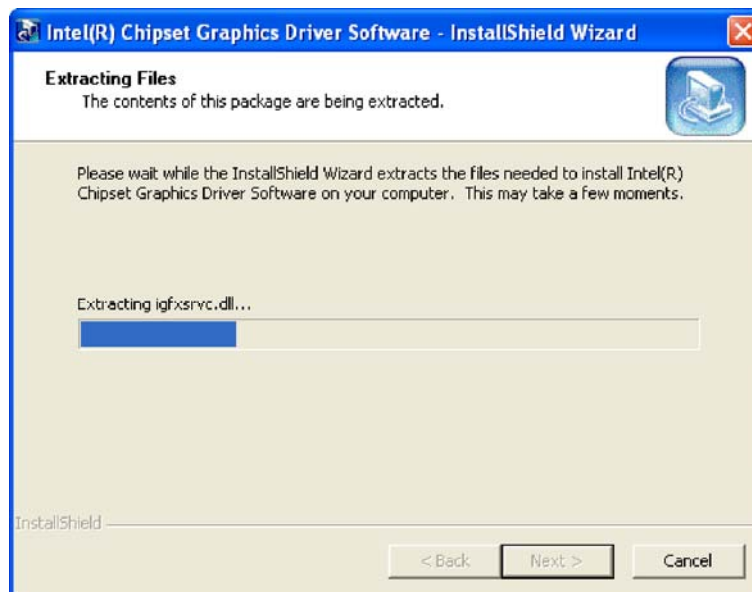

Figure 6-10: VGA Driver Setup Files Extracted
Step 5: The installation files are extracted. See Figure 6-10.